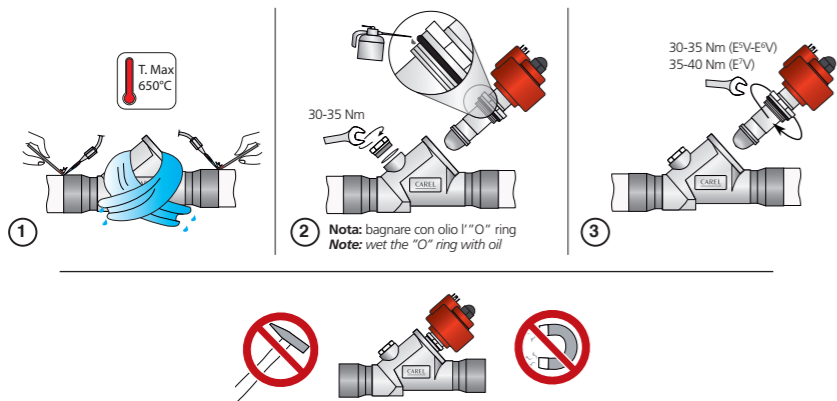

Fig. 2
Le valvole E⁵V, E⁶V, E⁷V devono essere saldate al circuito mediante brasatura dei raccordi in rame ai tubi di uscita condensatore (IN) e di ingresso evaporatore (OUT). Seguire la successione indicata in Fig. 2 procedendo in questo modo:
The E⁵V, E⁶V, E⁷V valves must be joined to the circuit by braze welding the copper fittings to the condenser outlet (IN) and evaporator inlet pipes (OUT). Proceed as indicated in Fig. 2.
6. Make sure that the red stator is fully inserted on the cartridge with the black nut screwed on tightly until deforming the rubber ring on the stator (tightening torque 0,5 Nm). (Fig. 2 D);